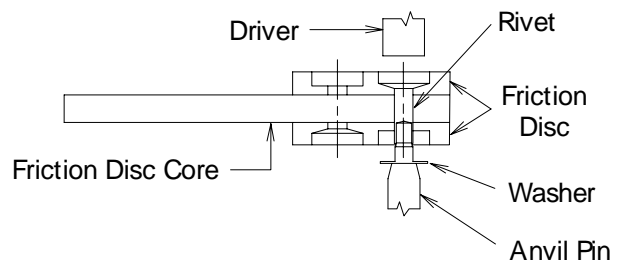
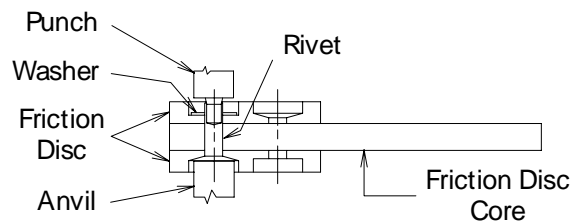

Fig. 21
Fig. 22
- 6.3.5 Insert a rivet through any hole and set using a washer on the clinched end of the rivet. Figure 21 illustrates machine setting and Figure 22 illustrates setting the rivet manually. When setting manually, use an arbor press and keep the setting tool square to avoid splitting the rivet.